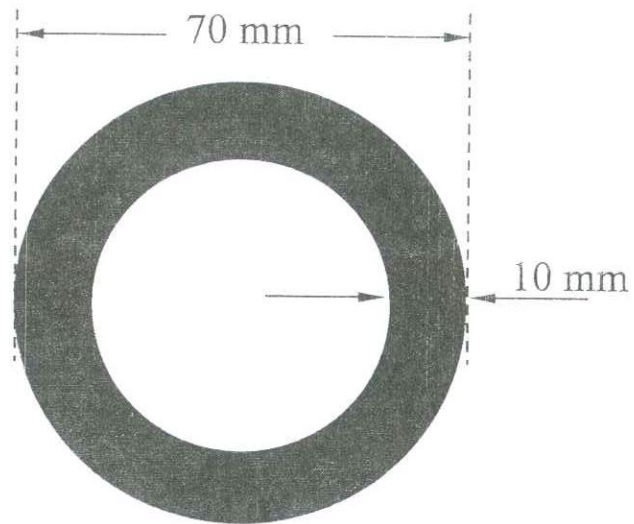

Figure Q4
- b) A section of circular hollow beam made of ductile material having yield strength (σ_Y) of 300 MPa is shown in Figure Q4.